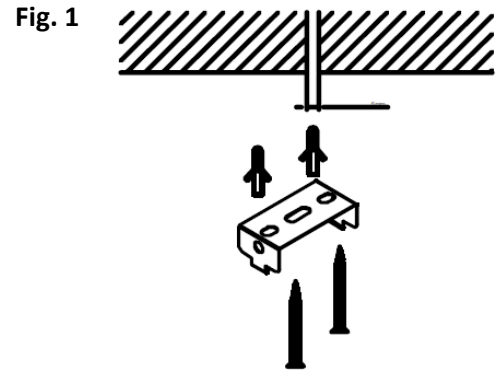

Fig. 2
2. Open the clips on the fixture. (Fig. 2)